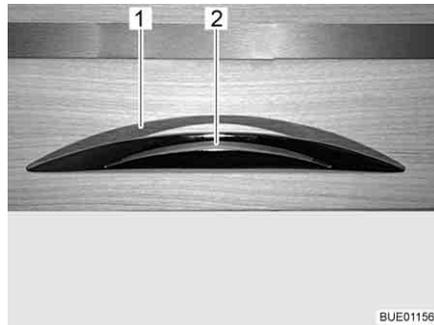

Fig. 40 Furniture flap with release handle
- Press the release handle (Fig. 40,2) and hold it down.
- Pull the release handle (Fig. 40,1) until the furniture flap is open.